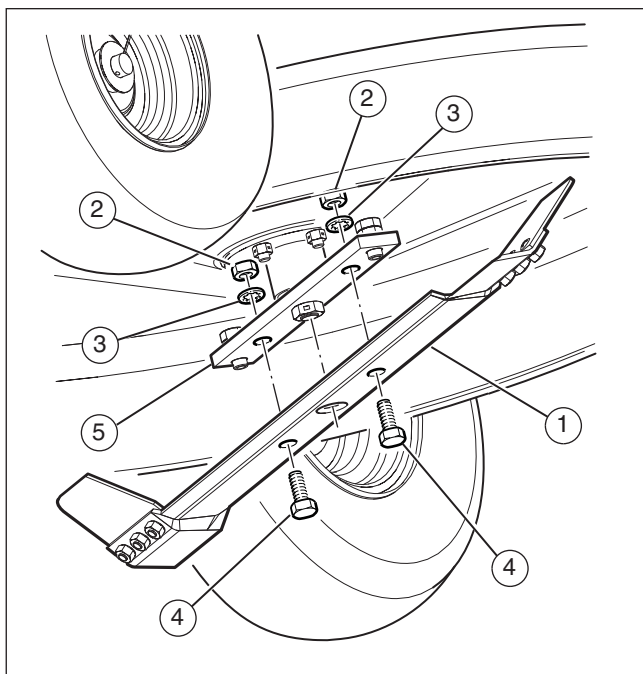

Figure 21
- Frequently check the blade (1) for excessive wear, cracks, or other damage (see **Figure 21**).
- Frequently check the nuts (2) that hold the blade. Keep the nuts tight.
3. Remove the nuts (2), washers (3), and bolts (4) that hold the blade (1) (see **Figure 21**).
6. Mount the blade on the mandrel (5).
8. Fasten the blade with the original bolts (4), washers (3), and nuts (2).